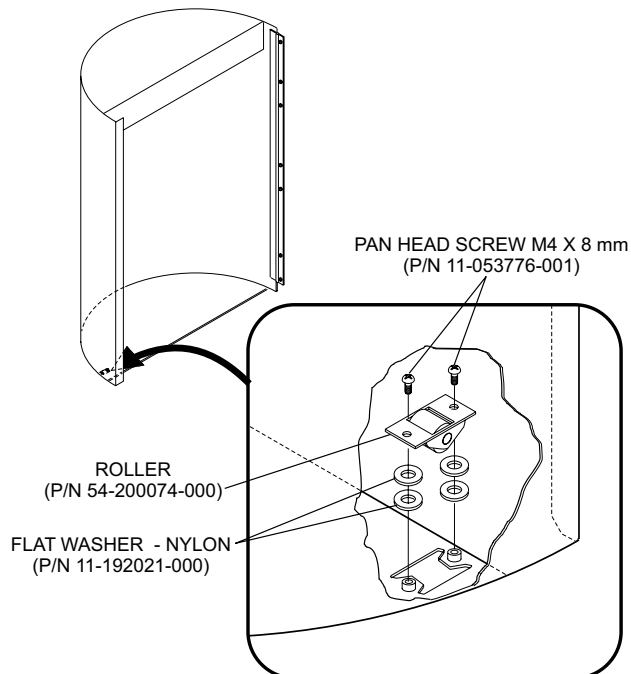

Figure 6
1. Install roller (P/N 54-200074-000) in cut-out in bottom of trash can cover using two screws (P/N 11-053776-001) and four flat nylon washers (P/N 11-192021-00). Refer to *Figure 6*.